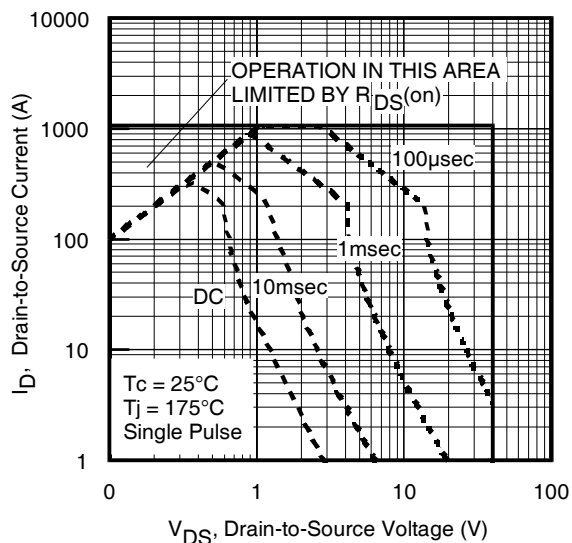

Fig 13. Maximum Safe Operating Area
**Notes on Repetitive Avalanche Curves , Figures 13, 14: